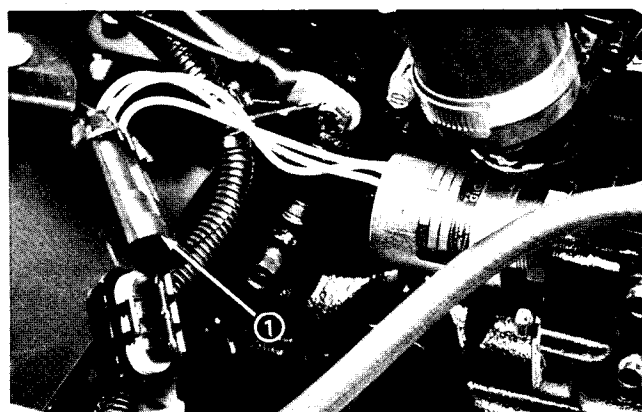

Figure 30b
4. Disconnect the fuel stop solenoid electrical connector to prevent fuel delivery during the compression test (Fig. 30b). This will prevent wash-down of the cylinders and inaccurate readings.